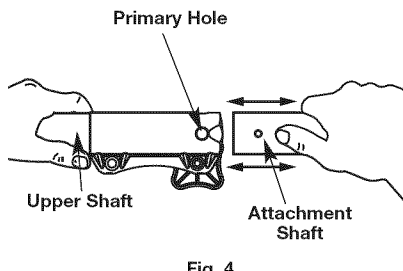
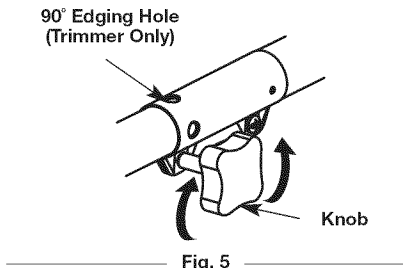

Fig. 4
Fig. 5
WARNING: Before operating this unit, be sure that the release button is fully snapped into the primary hole (Fig. 4), and that the knob (Fig. 5) is securely tightened.
1. Turn knob counterclockwise to loosen (Fig. 5).
2. While firmly holding the attachment, push it straight into the Convertible™ coupler until the release button snaps firmly into the primary hole (Fig. 4).
3. Turn the knob clockwise to tighten (Fig. 5).
NOTE: When using an attachment for edging purposes, lock the attachment release button into the 90° hole (Fig. 5).
1. Turn the knob counterclockwise to loosen (Fig. 5).
3. While firmly holding the upper shaft, pull the attachment straight out of the Convertible™ coupler (Fig. 4).